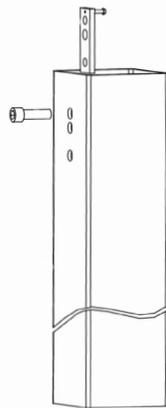

Fig 1
2. Insert mounting plate and fasten bolt halfway on top hole. (Fig. 1)